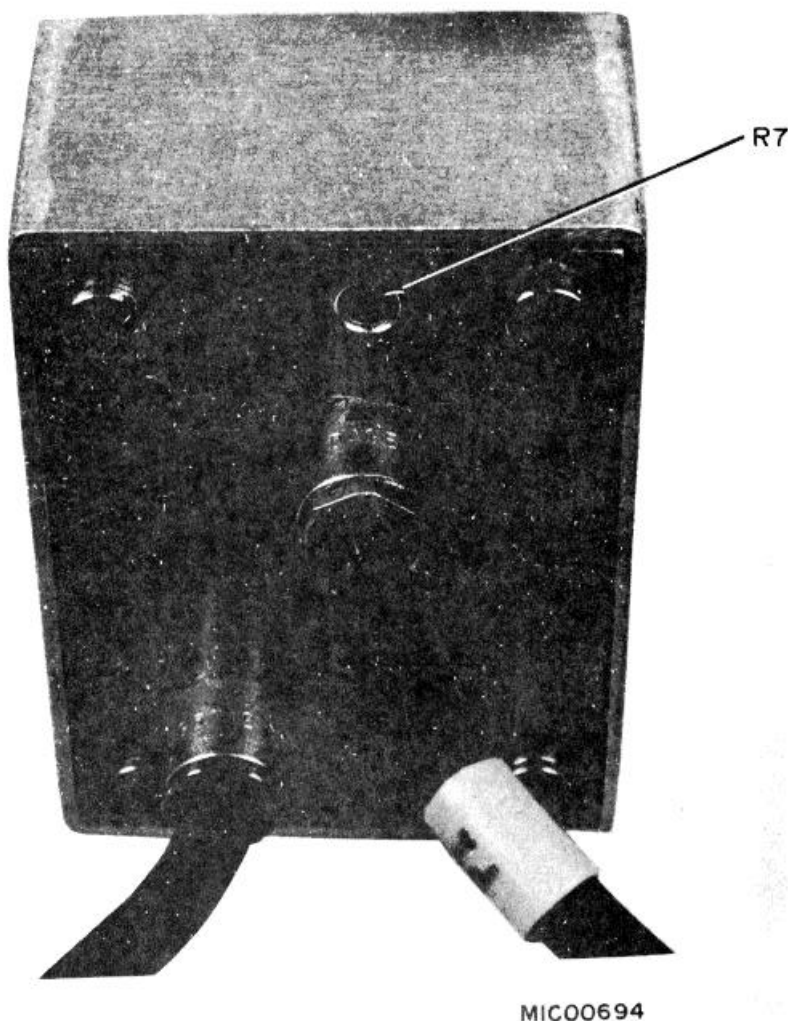

Figure 6-7. Preamplifier.
- g. Adjust R7 (Fig. 6-7) on preamplifier until signal level meter indicates 50 microamperes.